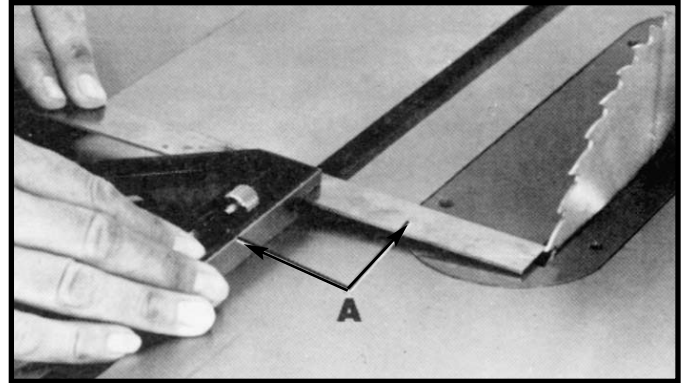

Fig. 62
1. Place a combination square (A) Fig. 62, on the table with one edge of the square in the miter gage slot, as shown, and adjust the square so the rule just touches one of the teeth on the saw blade at the forward position, as shown in Fig. 62. Lock the square in this position.